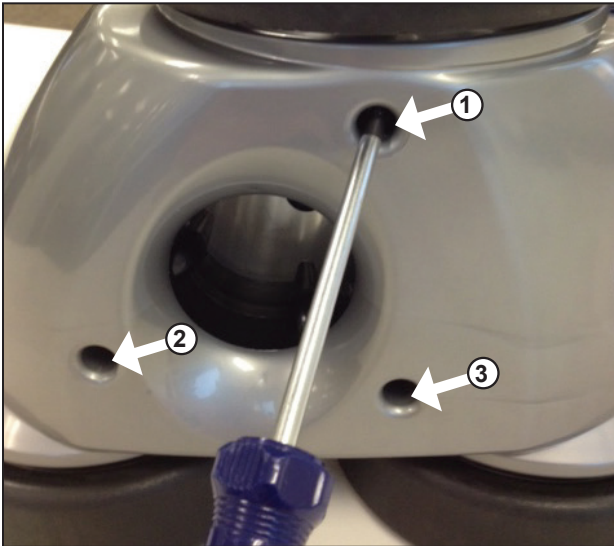

Figure 4. Remove three (3) bottom housing screws
6. Loosen the three (3) screws on underside of cleaner (Figure 4). Tilt the cleaner over and allow screws to drop out.